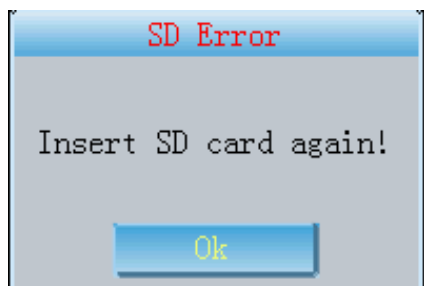

Fig. 13-11-3
- 3 When system enters Archive Management, the prompt as Fig.13-11-3 appears, please insert SD card again.